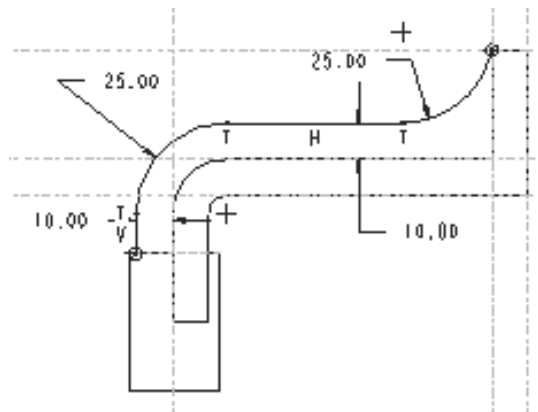

Figure 5-46 Open sketch of the rib feature with dimensions and constraints
4. Draw the open section sketch for the rib feature and apply the required constraints and dimensions as shown in Figure 5-46.